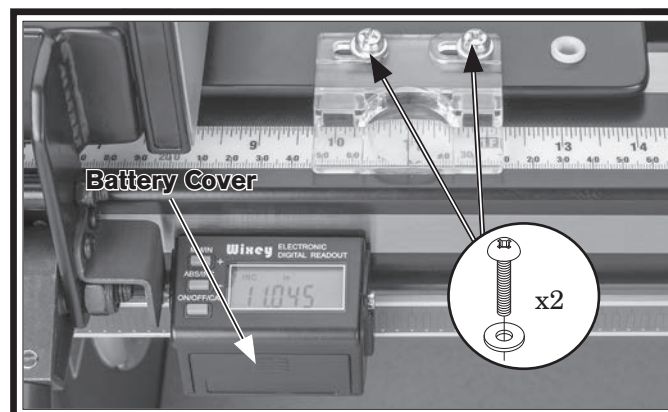

Figure 38. Rail tape aligned with scale pointer.
— If you need to correct position of indicator line, loosen Phillips head screws on pointer window, adjust pointer window so line is over "0" mark on tape (see **Figure 38**), then tighten screws.
10. Remove battery cover from front of fence digital readout and install (2) AAA batteries, then reinstall cover (see **Figure 38**).